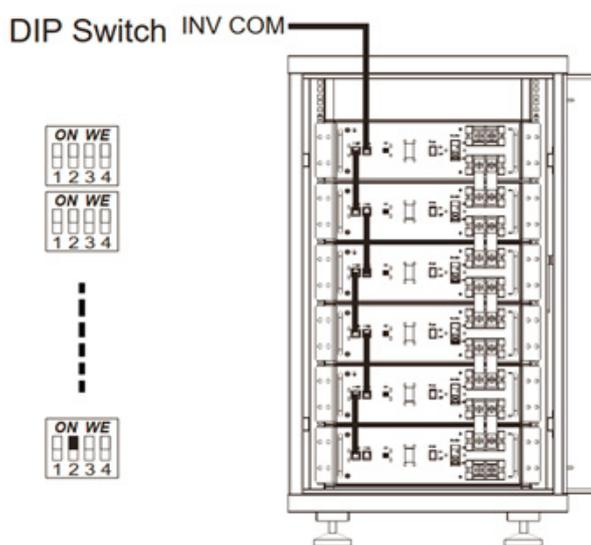

Figure 4: Parallel operation of Giter Batteries
- Up to six batteries can be paralleled. When connecting batteries in parallel please refer to Figure 4 and the table above for the DIP switch settings.